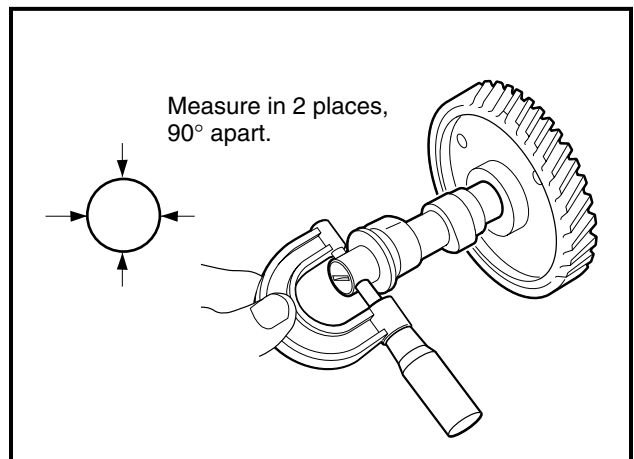
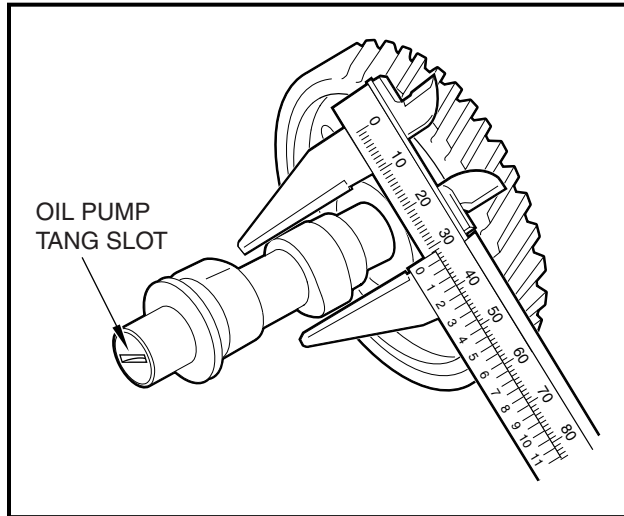

Figure 3-41 Measure O.D. of Camshaft Journals
Figure 3-42 Measure O.D. of Camlobes
5. Measure the camshaft journals and cam lobes with a micrometer at the points shown (**Figure 3-41, Page 3-21 and Figure 3-42, Page 3-23**).
- When installing the camshaft, make sure that the tang (1) on the oil pump rotor seats in the slot (2) in end of the camshaft (Figure 3-42, Page 3-23 or Figure 3-94, Page 3-43). If the oil pump tang is not seated in the slot in the camshaft, serious engine damage will result.